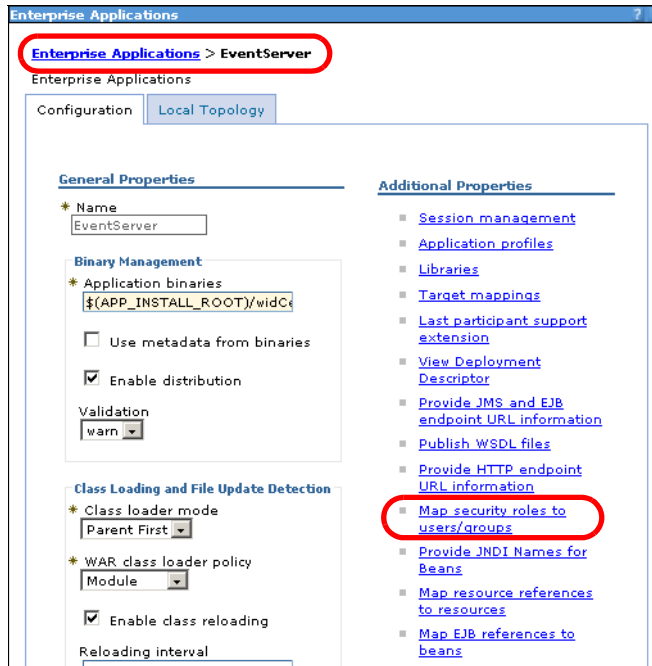

Figure 11-1 Mapping security roles for the event server
- ▶ From the Additional Properties, select *Map security roles to users/groups* (Figure 11-1).